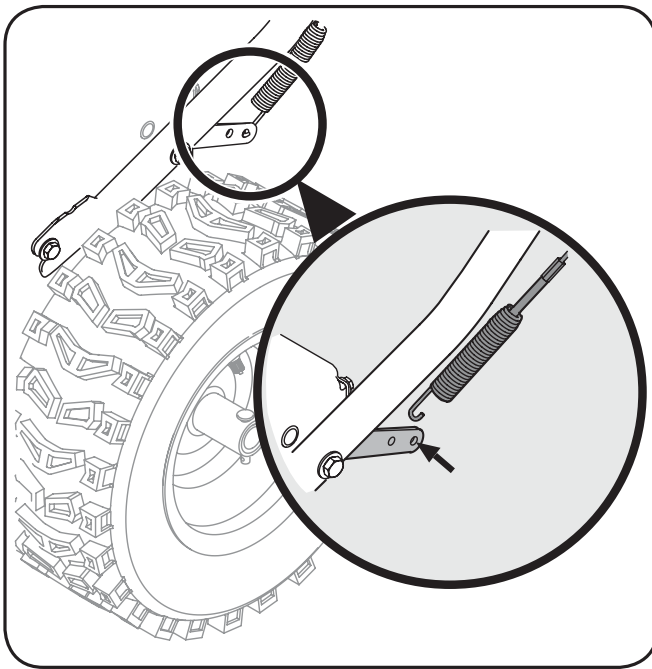

Fig. 3-12
- To readjust the control cable, unhook the spring (found on the end of the auger cable) from the auger actuator bracket. See Figure 3-12.